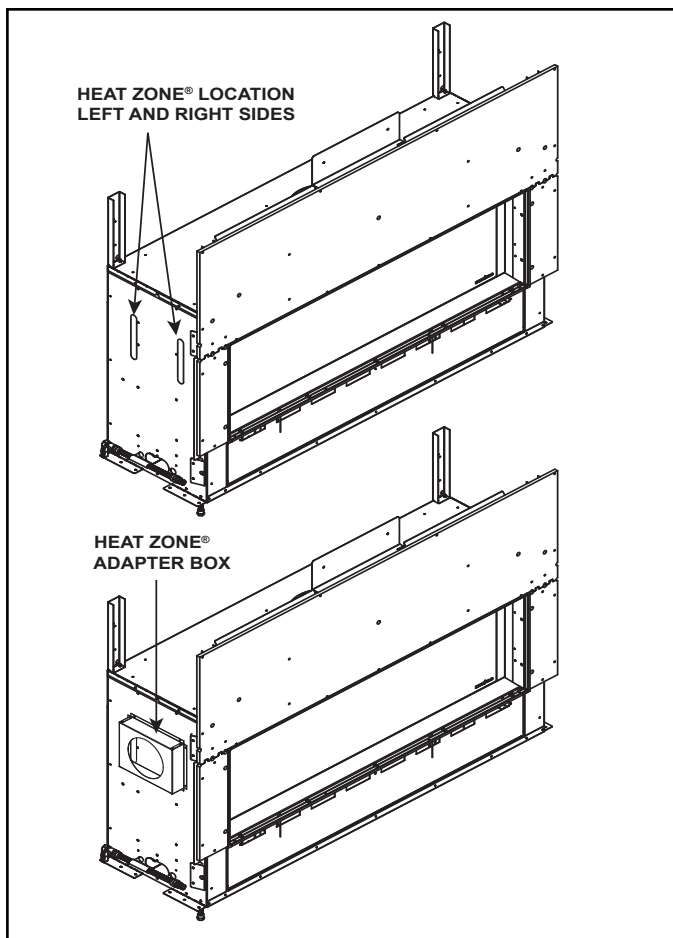

Figure 5.6 Adapter Box
2. Locate the Heat-Zone ports on the left and right sides of the appliance. See Figure 5.6. Remove the knockouts from the desired side(s) with a tin snips.
3. Place the Heat-Zone adapter box into position prior to the final positioning of the fireplace as shown in Figure 5.6. Secure using eight self-tapping screws. Ensure the Heat-Zone knockouts are completely covered by the adapter box.